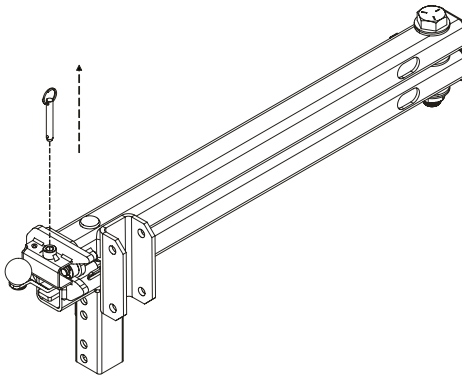

Figure 3-9
1. Remove the safety pin. See Figure 3-9.